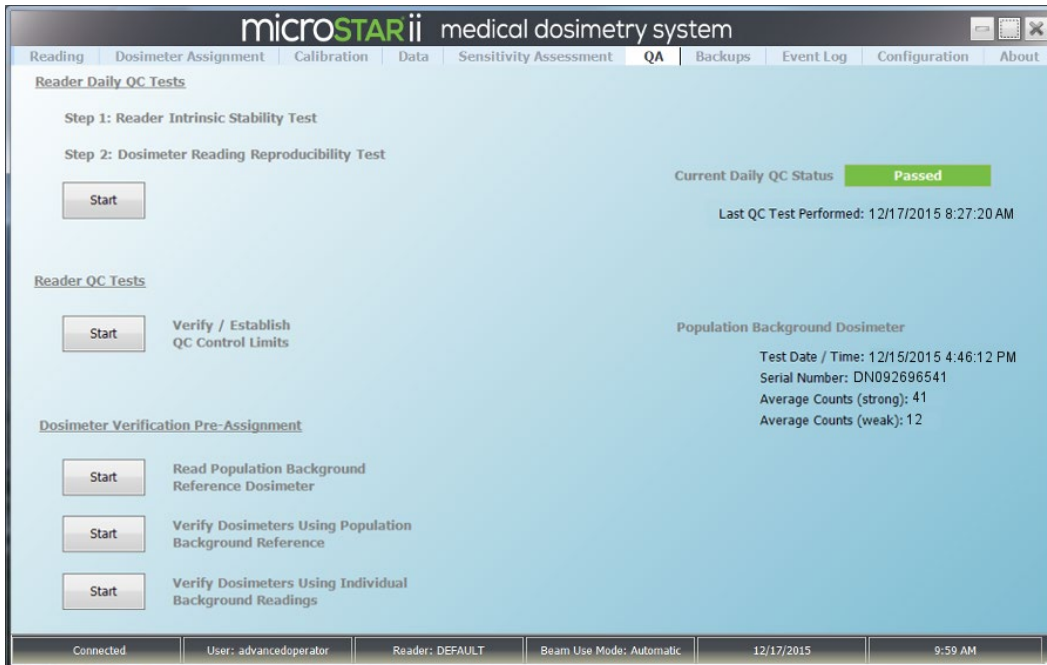

Figure 5-1: QA Tab
- STEP 3:** Under *Reader Daily QC Tests*, click the Start button (Figure 5-1). The Reader Intrinsic Measurement Test will start. When it is complete, click OK on the Reader Daily QC Test results prompt. The report will be updated with a colored bar reflecting the test results (green for a passed test, red for a failure). The test will move on to the next step if the test is passed.
- STEP 4:** Under *Reader QC Test*, click the *Verify/Establish QC Control Limits* Start button. (See Figure 5-1.)
*Dosimeter Verification Pre-Assignment* measurements are run from the *QA* tab (Figure 5-1).
Both sets of verification are run from the *QA* tab (Figure 5-1). All of the readout information can be accessed from the *Data* tab.